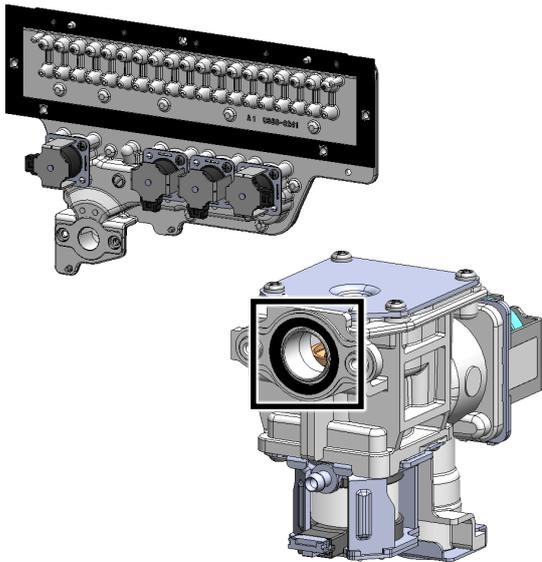

Figure 8
- Inspect the new gas manifold gaskets for damage and confirm gasket is installed at gas control valve (Figure 8).